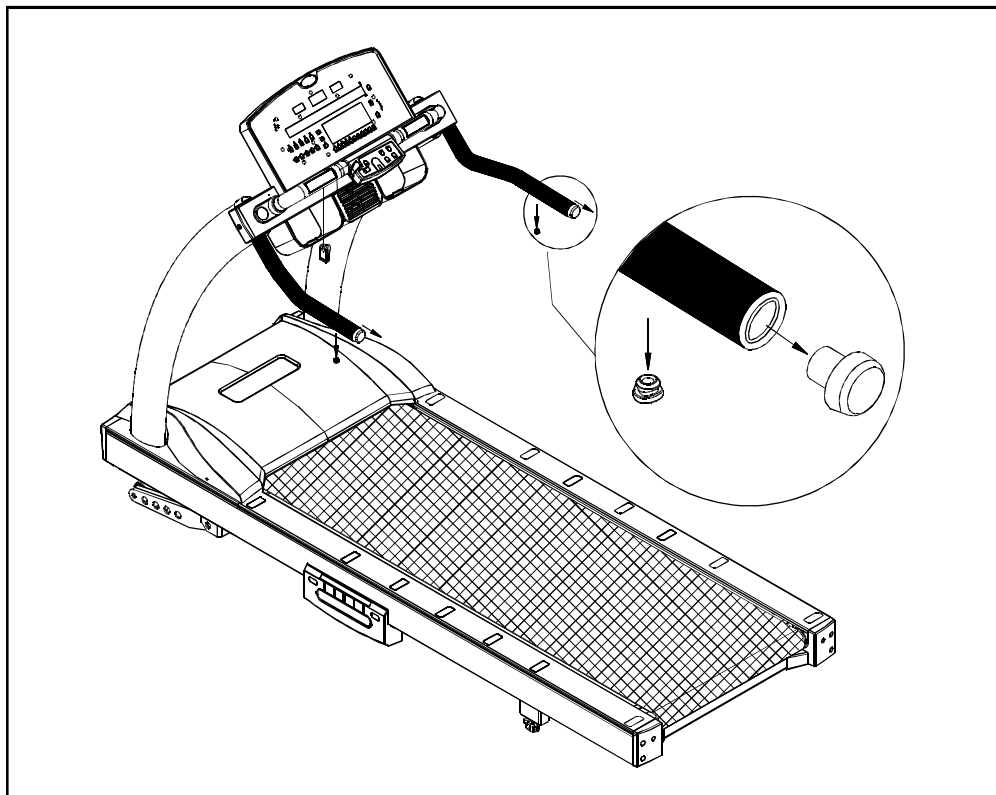

Fig.11
- (1) Remove endcap fastener and endcap. (see Fig.11)